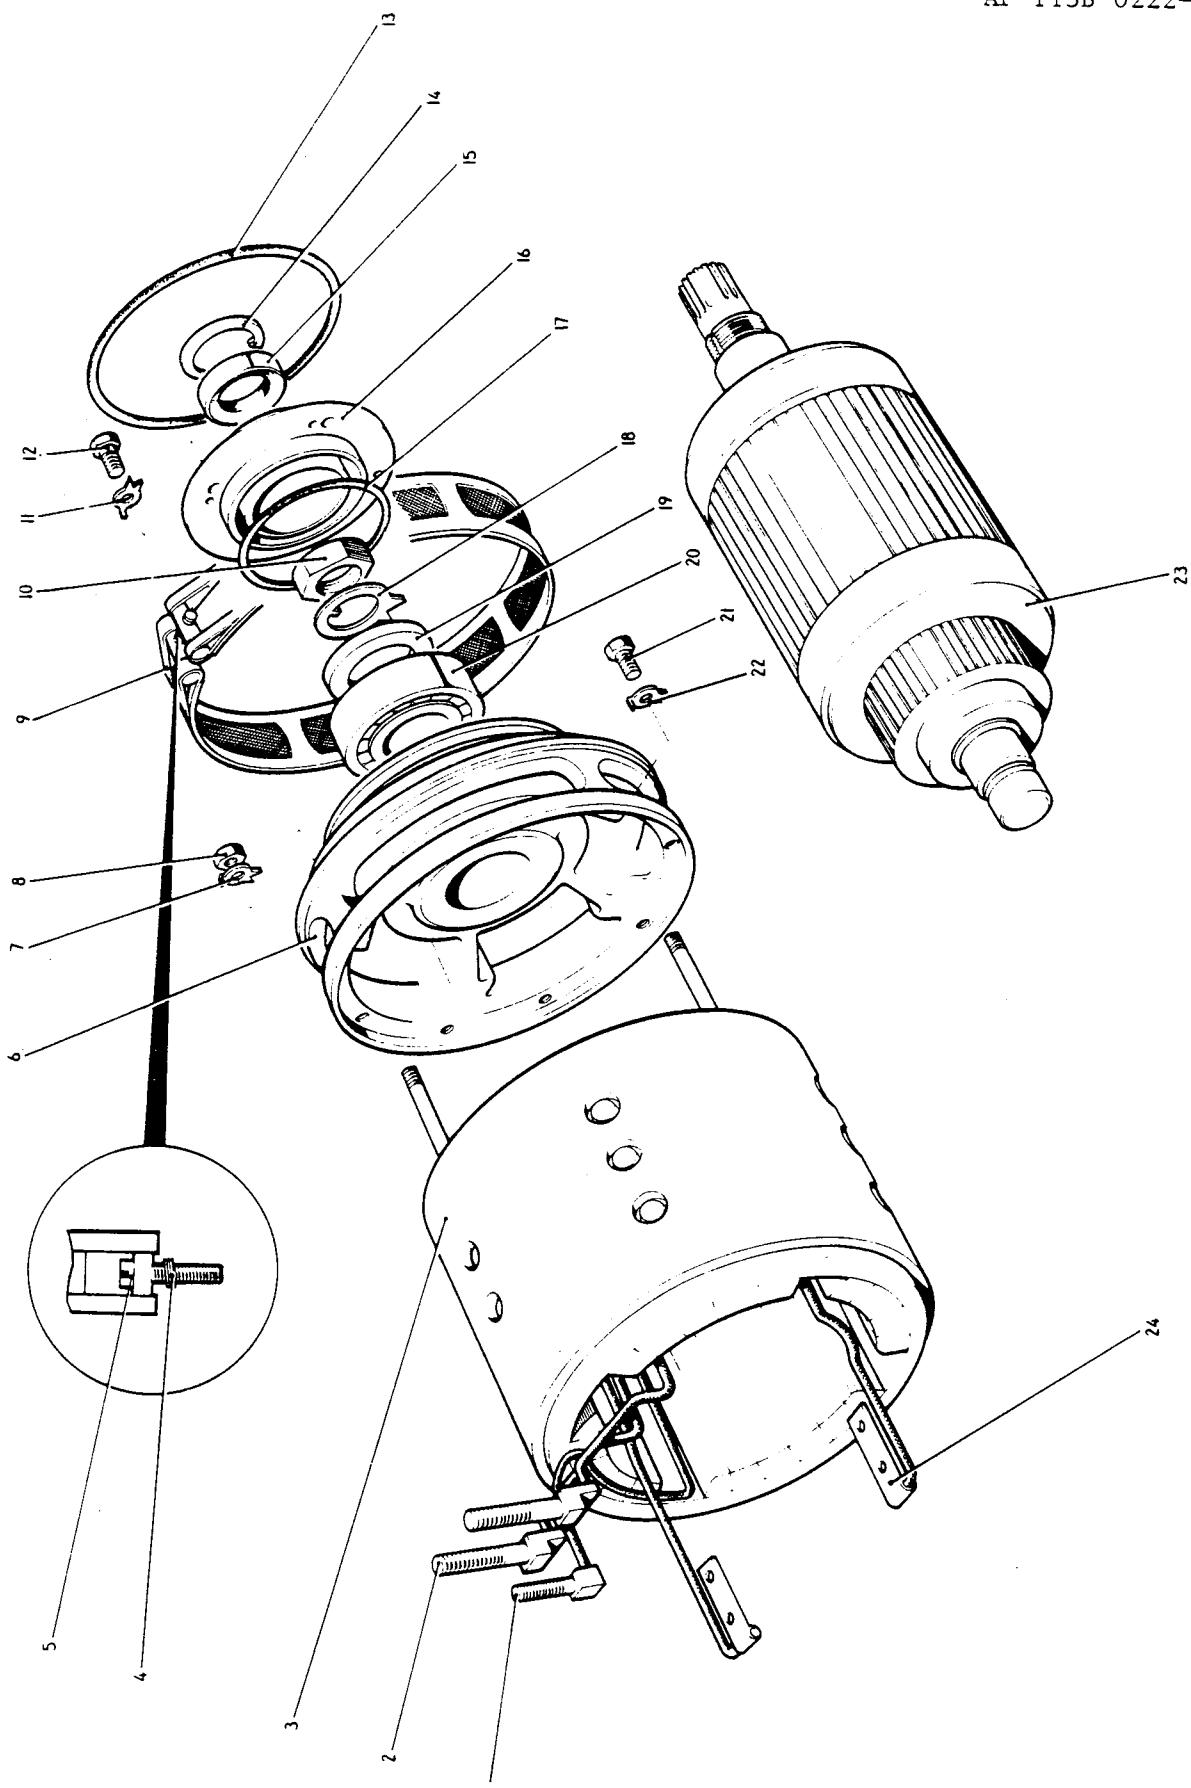

Fig.3 Generator, drive-end and armature - exploded view
Key to fig.3
5. Refer to fig.3 and proceed as follows:-
- (1) From the armature shaft (fig. 3, item 23) remove the circlip (24) and washer (23).
- (2) Remove the inner race of the bearing (22) from the shaft; collect the spacer (8). Examine the spacer for damage.
- (3) Refit the spacer (8) with the smaller diameter toward the commutator.